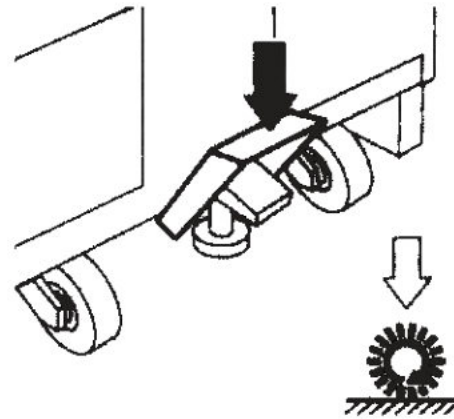
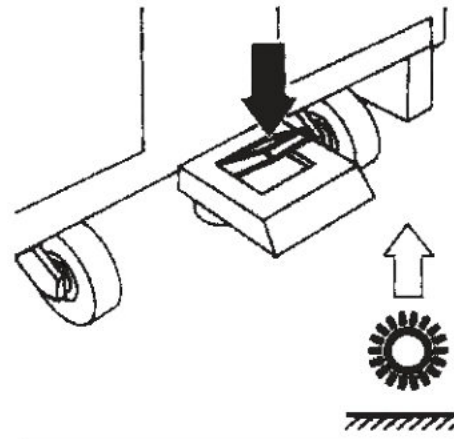

Figure 3
Figure 4
3. Connect the power supply plug (7) to the electrical mains.
*Before connecting the power supply plug to the electrical mains, check that frequency and voltage, shown on the machine serial number plate (26), match the electrical mains voltage.*
4. Turn the main switch (2) to "I", to turn on the brush motor.
5. Turn the switch (3) to "I", to turn on the vacuum system motor.
6. Turn the pump switch (4) to "I", to turn on the solution flow to the brush.
7. Press the pedal (Fig. 3) to lower the brush and squeegees on the floor.
8. While keeping the hands on the handlebar, start the machine by pressing the brush switches (6) and then start scrubbing/drying the floor.
9. With the switch (5) adjust the solution flow according to the type of cleaning to be performed.
11. In case of tough dirt, wash the floor thoroughly by turning the vacuum system switch (3) to "0", then wash the floor again and then collect the liquids by turning the vacuum system switch (3) to ON.
12. At the end of the work, release the switches (6), turn the main switch (2) to "0", then lift the brush and the squeegees with the pedal (Fig. 4).